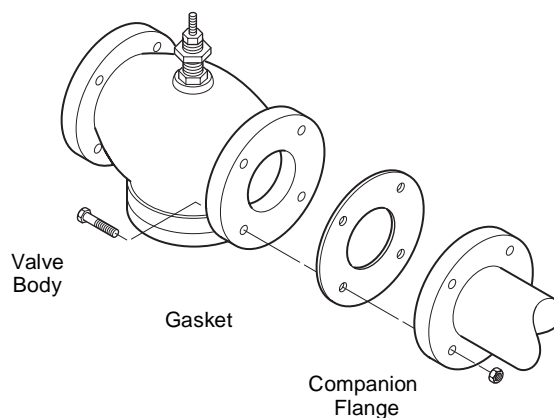
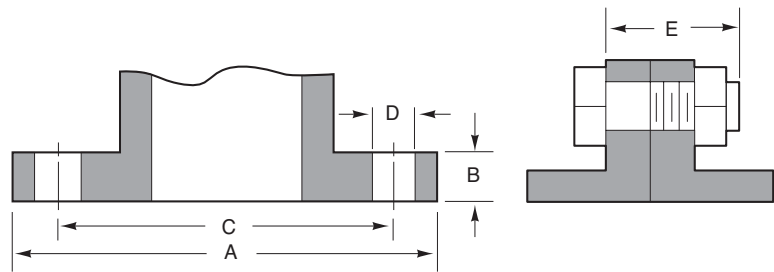

Figure-5 Installation of Flanged End Valves.
Figure-8 Flange Dimensions.
4. Figure-5 shows the proper way a flanged valve should be mounted. See Figure-8 for flange and flange bolt details.
**Table-10 Flange Detail for American Standard 125 lb. Cast Iron Pipe Flanges (Figure-8).**